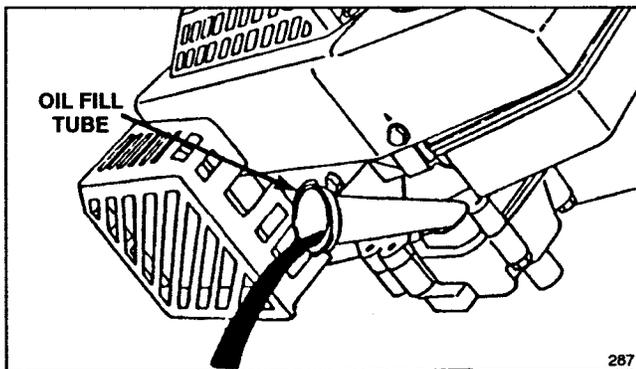

Figure 21
4. Tip mower on its left side, allowing oil to drain into drain pan (Fig. 21).